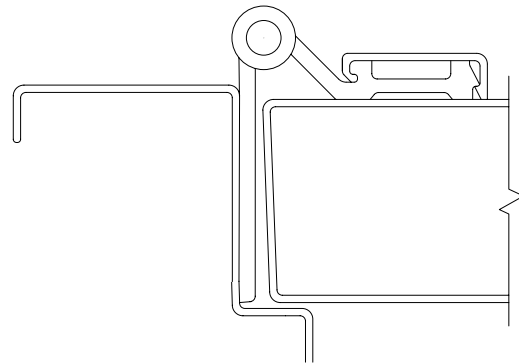

FIGURE 2c
2. The Half Surface Continuous Hinge, Figure 2c, has one leaf mounted to the frame rabbet and the other leaf mounted to the door face.